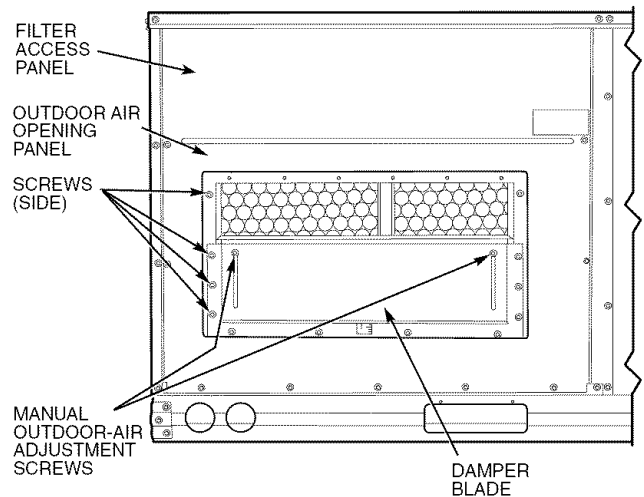
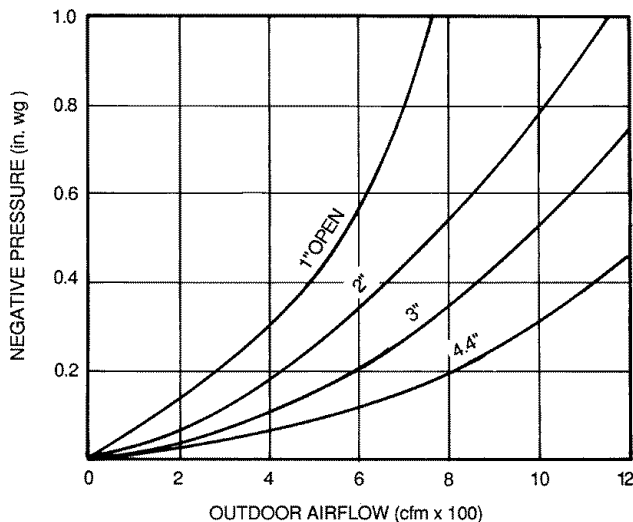

Fig. 11 — Damper Panel with Manual Outdoor-Air Damper Installed
Fig. 14 — Outdoor Air Damper Position Setting
2. Remove the filter access panel by raising the panel and swinging the panel bottom outward. The panel is now disengaged from the track and can be removed. No tools are required to remove the filter access panel. Remove the outdoor-air opening panel. Save the panels and screws. See Fig. 11.
8. Adjust the minimum position setting of the damper blade by adjusting the manual outdoor-air adjustment screws on the front of the damper blade. See Fig. 11. Slide the blade vertically until it is in the appropriate position determined by Fig. 14. Tighten the screws.